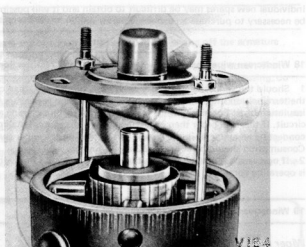

Fig. 10.12. Removing the endplate from the Delco-Remy starter motor (Sec. 15)
- 9 The front end plate can then be removed from the motor to reveal the brushes, holders and armature of the motor (Fig. 10.12).